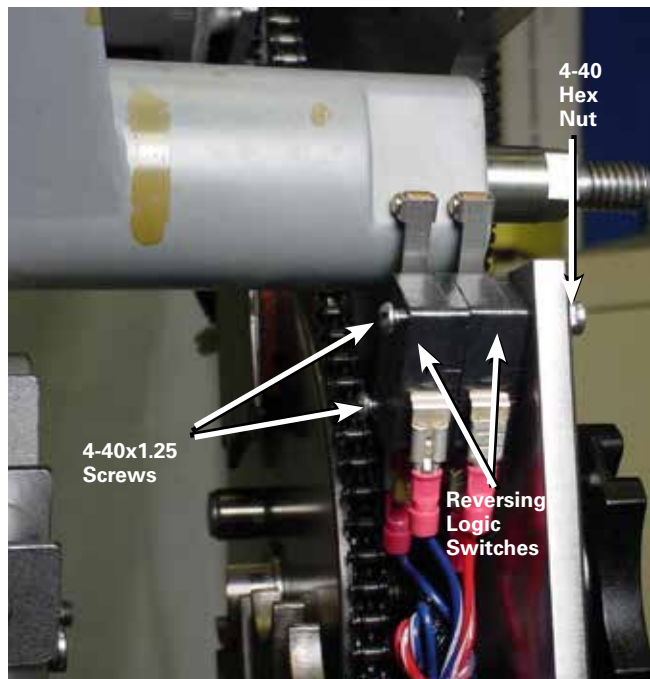

Figure 69. Reversing logic switch mounting.
- Place the mounting hardware onto the reversing logic switches and fasten to the tap-changer front plate. While holding a small screwdriver, tighten the nuts to a torque of 4–5 in-lbs (0.5–0.6 Nm). See Figure 69.